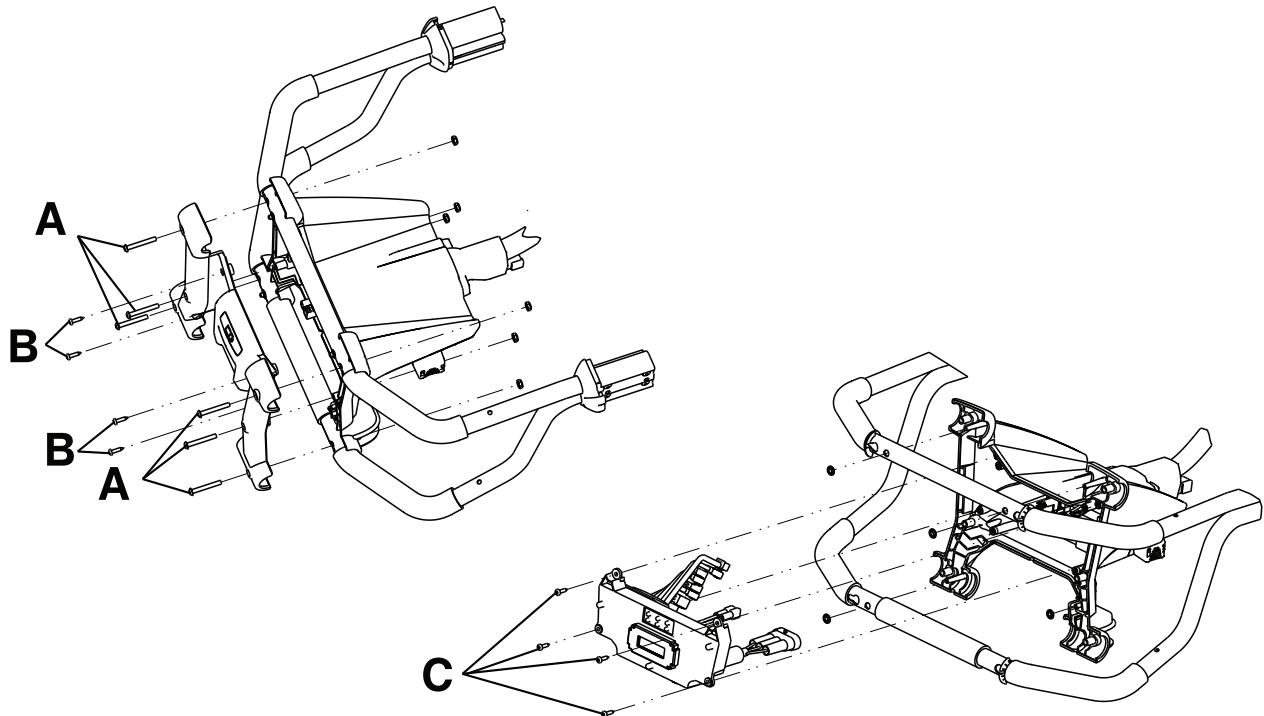

Figure 15 – Terminal block replacement
3. Using a T25 Torx driver, remove the six outer button head cap screws (A) from the face plate (Figure 15). Save the screws.
4. Using a T20 Torx driver, remove the four inner delta screws (B) from the face plate to remove the face plate (Figure 15). Save the screws and face plate.
5. Using a T20 Torx driver, remove the four delta screws (C) that secure the electronics assembly to the foot end enclosure and pull the electronics assembly out (Figure 15). Save all parts.